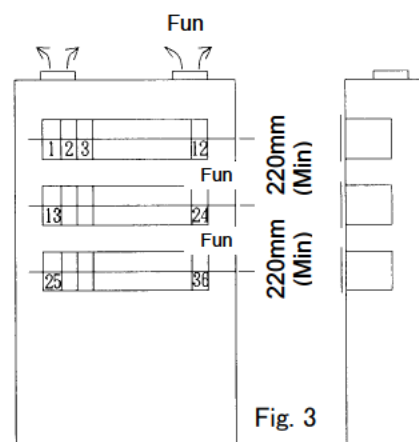

Fig. 3
- When it is installed in the closed instrumentation panel, attach ventilation fans above and below the panel. (Fig.3)